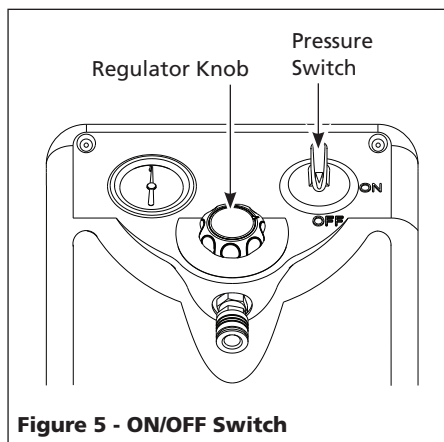

Figure 5 - ON/OFF Switch
- Pressure Switch** - ON/OFF Switch (Figure 5) - In the ON position, the compressor shuts off automatically when tank pressure reaches the maximum preset pressure. In the OFF position, the compressor will not operate. This switch should be in the OFF position when connecting or disconnecting the power cord from the electrical outlet or when changing air tools.